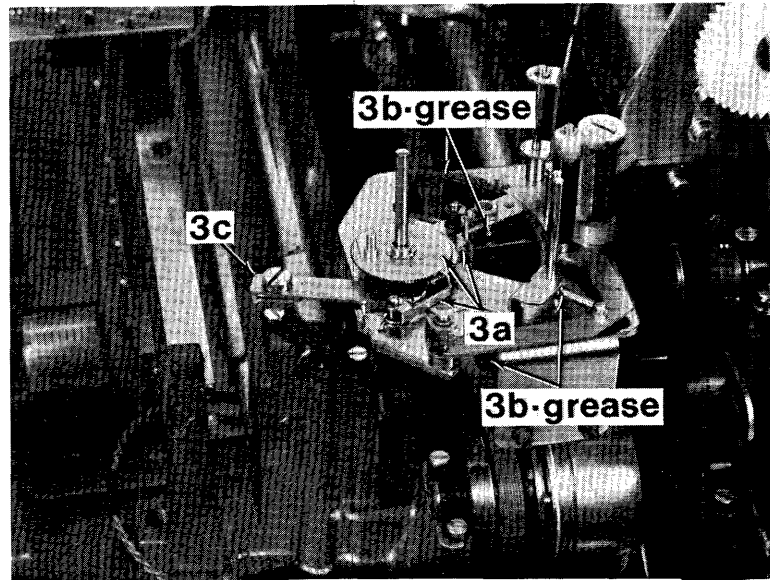

Figure 6-3. RIBBON FEED ASSEMBLY
- b. Clean and lubricate all gears and springs with grease oil as indicated. (See Figures 6-3 and 6-4).